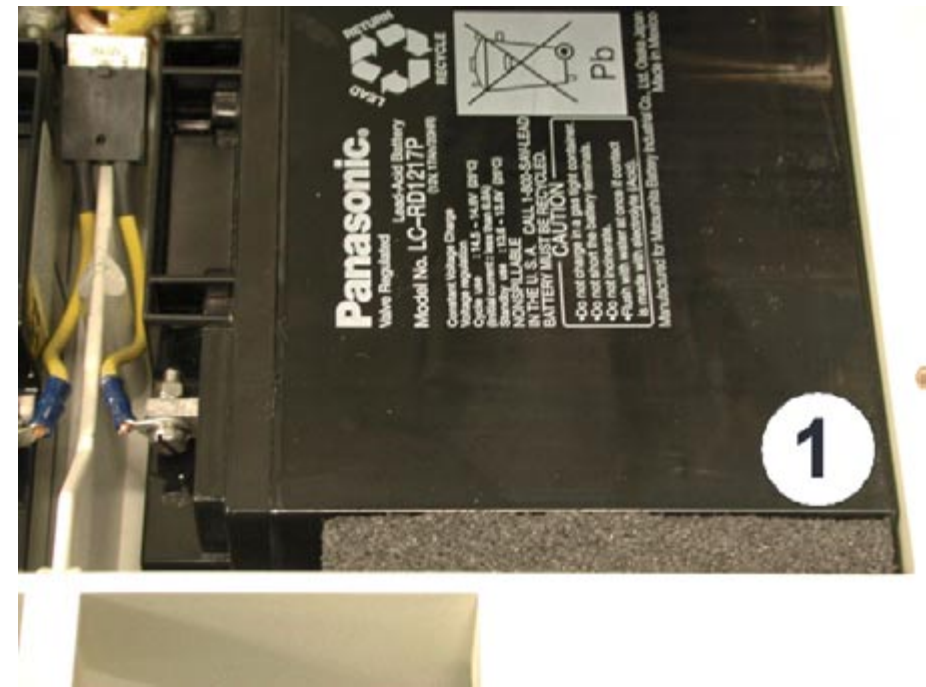

Fig. 4 Pad of the right-hand rechargeable battery
- 4 Remove both pads (Fig. 4/1) from the trolley and put them aside for later reassembly.